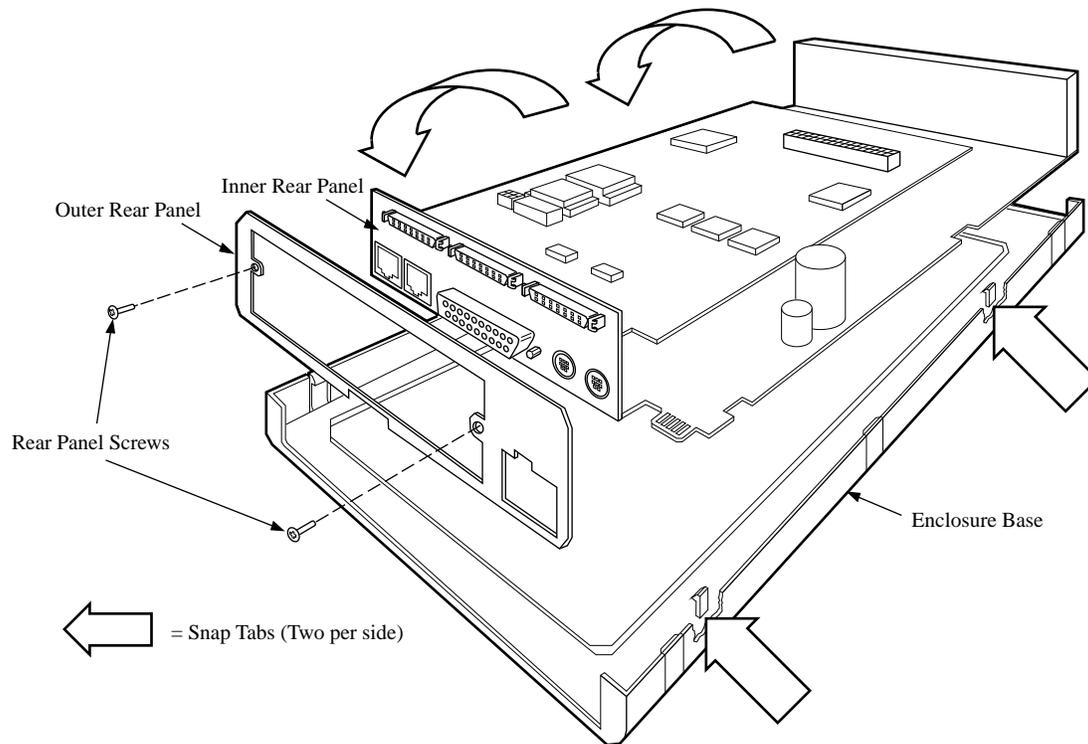

Figure 2-8. Removing the 3512 from the Enclosure Base
- 6) Locate the four snap tabs along the sides of the inner enclosure (Figure 2-8). Gently press the clips to free the 3512 unit from the base.
- 7) Locate the two screws that secure the outer rear panel to the inner rear panel and the 3512 (Figure 2-8). Remove the screws and outer rear panel. (Save the screws to secure the 3512 to the Mini-Nest.)